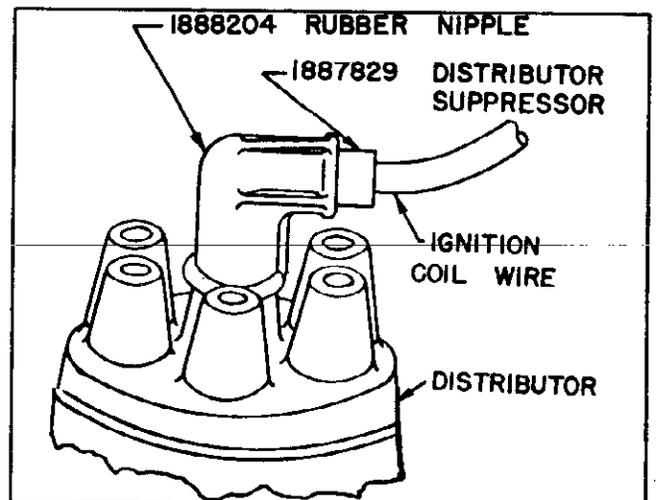

Figure 11
3. Install rubber nipple and distributor suppressor on high tension coil wire. (See Figure 11.)